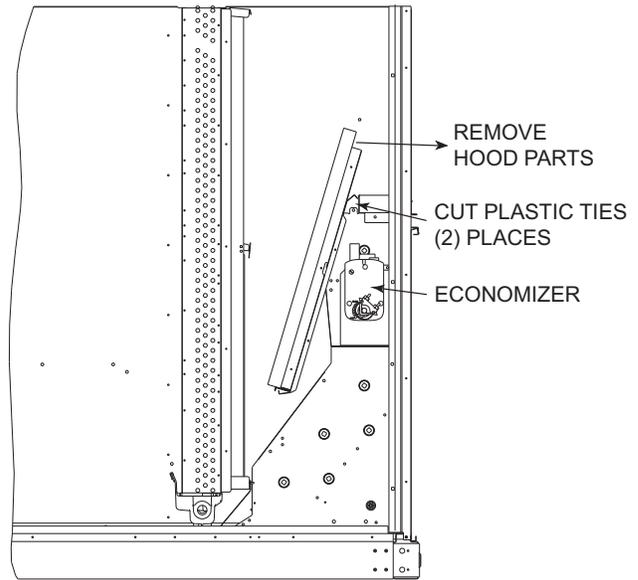

Fig. 14 — Economizer Hood Package Location
Locate the carton containing the outside air hood parts (see Fig. 14). Do not remove carton until unit has been rigged and located in final position.
3. Locate and cut the (2) plastic tie-wraps, being careful not to damage any wiring. (See Fig. 14.)